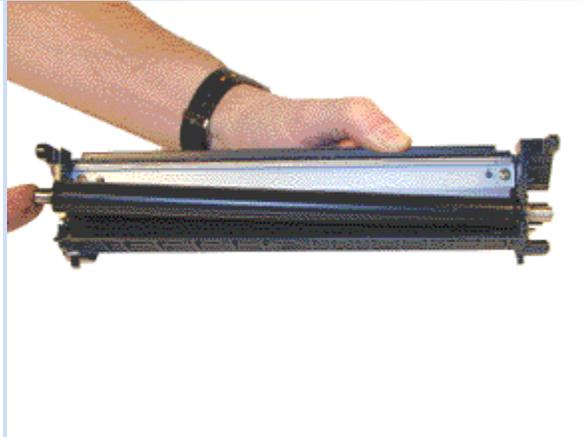

FIGURE 37
29. Replace the developer roller into the cartridge. The long metal shaft side goes to the gear side of the hopper. See Figure 37